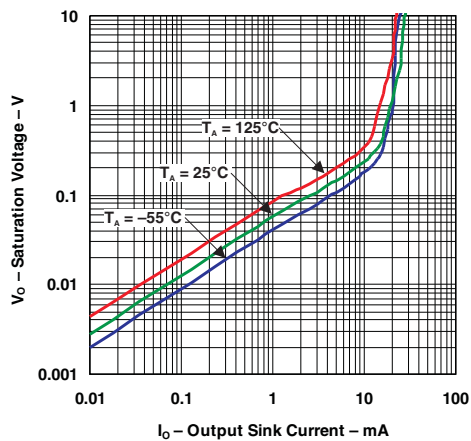

Figure 3. Output Saturation Voltage
- R_{CE} can be determined by taking the slope of Figure 3 in its linear region at the desired temperature, or by dividing the V_{OL} by I_{OUT}